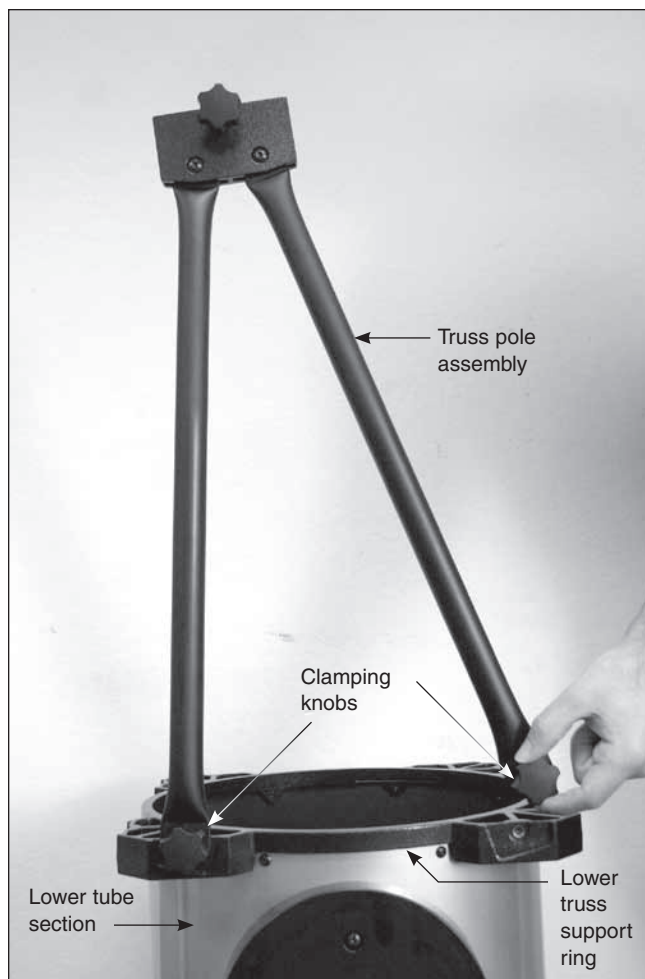

Figure 23. The clamping knobs on the ends of the truss pole assemblies thread into the holes in the lower truss support ring on the lower tube section.
6. Now, the upper and lower sections of the tube will be connected with the four truss pole assemblies. This is a procedure that will be done whenever the telescope has been disassembled for transport or storage. It is very easy to do, and should only take a couple of minutes. Start by connecting the eight captive clamping knobs on the ends of the pole assemblies to the lower truss support ring on the lower optical tube section (**Figure 23**). This is done by simply threading the knobs into the holes in the ring. Do not completely tighten these knobs just yet.